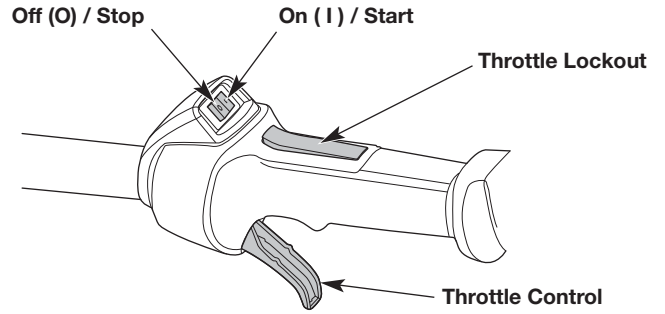
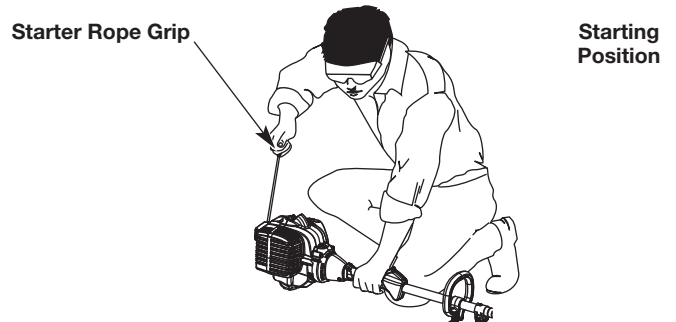

Fig. 6
Fig. 9
WARNING: Avoid accidentally starting the unit. To avoid serious injury, the operator and the unit must be in a stable position when pulling the starter rope (Fig. 9).
- NOTE:** There is no need to turn the unit on. The On/Off switch is in the ON (I) position at all times (Fig. 6).
5. Crouch in the starting position (Fig. 9).
6. **DO NOT** squeeze the throttle control (Fig. 6). Pull the starter rope with a controlled and steady motion until the unit starts (Fig. 9).
7. Idle the engine for 5 to 10 seconds. If the unit stops during this time, press the throttle lockout, squeeze the throttle control and pull the starter rope in a controlled and steady motion until the unit starts (Fig. 6).
8. Press the throttle lockout and squeeze the throttle control (Fig. 6). Allow the engine to warm up for 30 to 60 seconds.
2. Press and hold the On/Off switch in the OFF (O) position until the engine comes to a complete stop (Fig. 6).
NOTE: There is no need to turn the unit on. The On/Off switch is in the ON (I) position at all times (Fig. 6).
7. **DO NOT** squeeze the throttle control (Fig. 6). Run the electric start accessory in intervals no longer than 2 seconds each until the unit starts.
8. Idle the engine for 5 to 10 seconds. If the unit stops during this time, press the throttle lockout, squeeze the throttle control and run the electric start accessory in intervals no longer than 2 seconds each until the unit starts (Fig. 6).
10. Press the throttle lockout and squeeze the throttle control (Fig. 6). Allow the engine to warm up for 30 to 60 seconds.